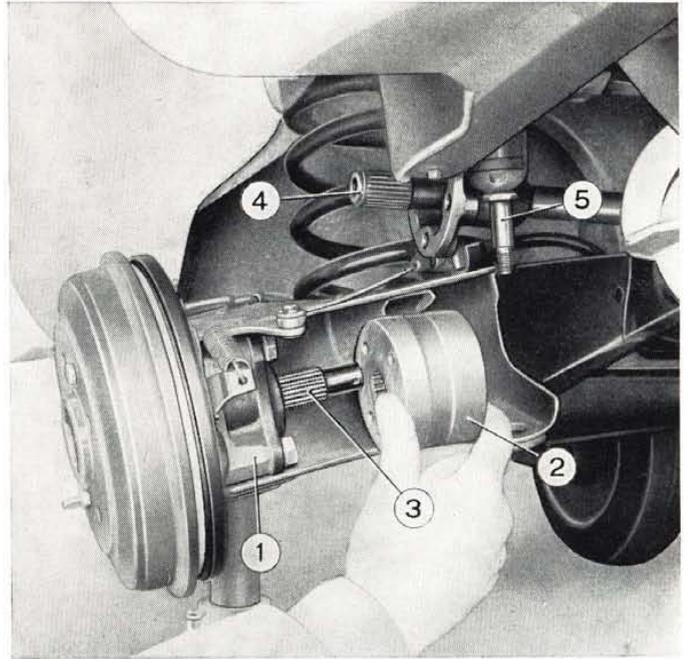

Fig. 260 - Removing flexible joint.
- turn the nut all out and replace the flexible joint by a new one (fig. 260);